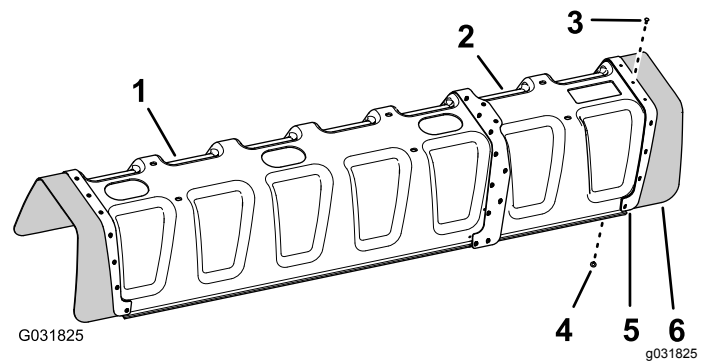

Figure 234
5. Align the holes in the rubber cover and the reinforcement plate (single row) that you removed in step 2 with the holes in the end of the over extension (Figure 234).